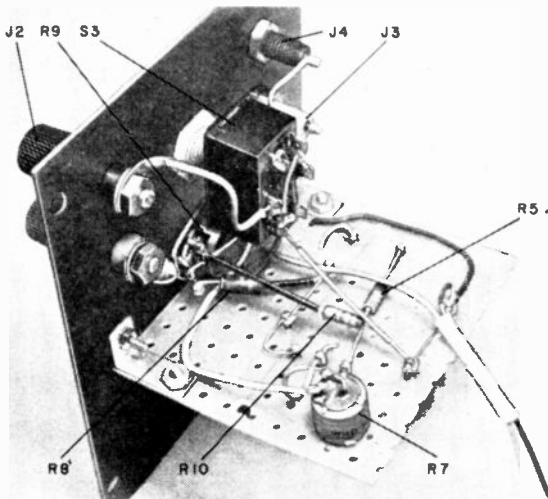

Fig. 3. All of the converter's parts can be fitted into a hand-held probe, or mounted inside a small cabinet. Parts layout and wiring are not critical.
**Battery Charging.** Battery manufacturers supply Load Voltage/Current Discharge curves in their manuals. A typical set of curves is shown in Fig. 3. These can be used as a guide to get started, but you will soon develop an intuitive approach based on your own experience. A good safe rule of thumb is to charge at the same rate that the cell was discharged.